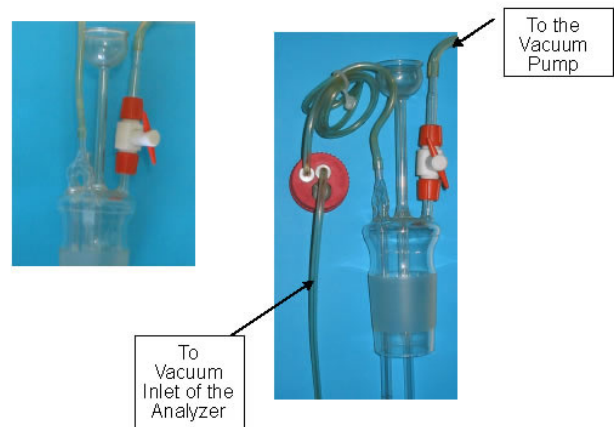

Figure 14: Vinyl Tube Connections
4. Connect the vinyl tubes as shown in Figure 14.